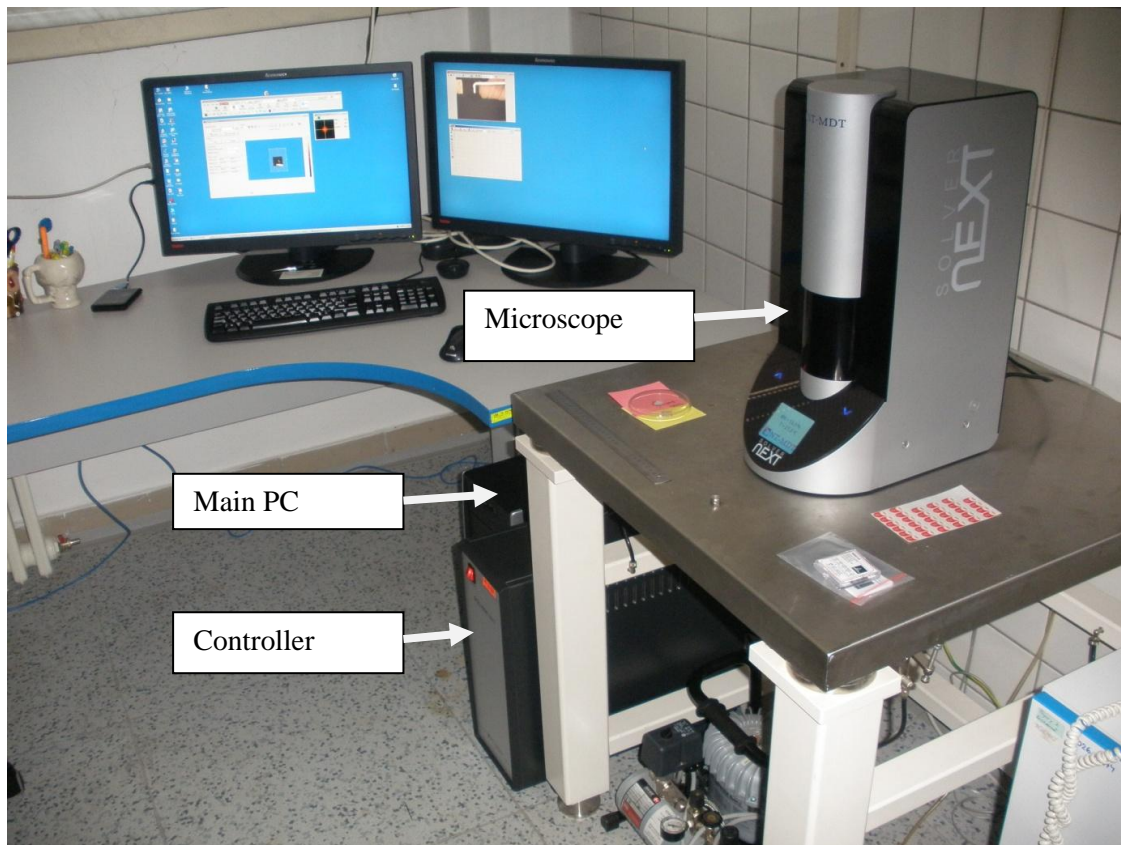

Fig. 1 SPM system SOLVER NEXT
- a. Turn on the “Main PC” (Fig. 1)
- b. Turn on “Controller” (Fig. 1)